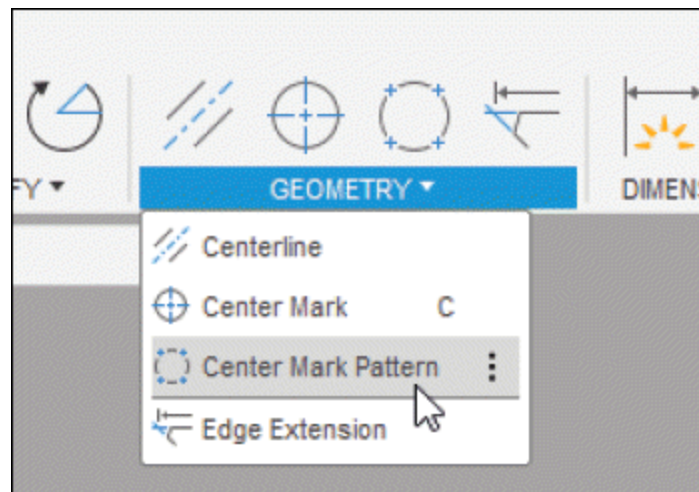
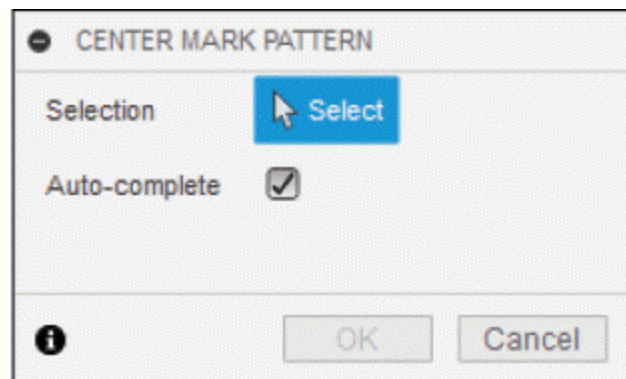

Figure-43. Center Mark Pattern tool
Figure-44. CENTER MARK PATTERN dialog box
- Click on the **Center Mark Pattern** tool from the **GEOMETRY** panel of **Toolbar**; refer to Figure-43. The **CENTER MARK PATTERN** dialog box will be displayed; refer to Figure-44. You will be asked to select a hole or round edge whose center mark is to be created.